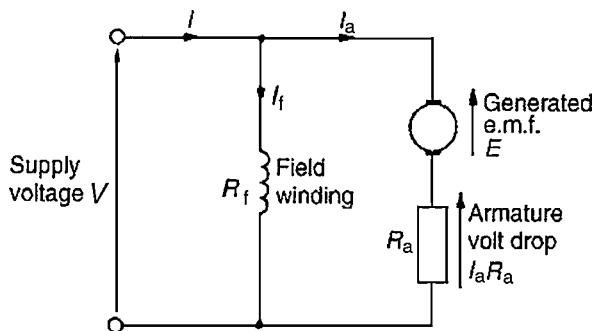

Figure 22.16
In the shunt wound motor the field winding is in parallel with the armature across the supply as shown in Fig. 22.16.
For the circuit shown in Fig. 22.16,
- (ii) The armature circuit of a d.c. motor has resistance due to the armature winding and brushes,  $R_a$  ohms, and when armature current  $I_a$  is flowing through it, there is a voltage drop of  $I_a R_a$  volts. In Fig. 22.16 the armature resistance is shown as a separate resistor in the armature circuit to help understanding. Also, even though the machine is a motor, because conductors are rotating in a magnetic field, a voltage,  $E \propto \Phi \omega$ , is generated by the armature conductors. From Equation (5),  $V = E + I_a R_a$  or  $E = V - I_a R_a$ . However, from Section 22.5,  $E \propto \Phi n$ , hence  $n \propto E/\Phi$  i.e.